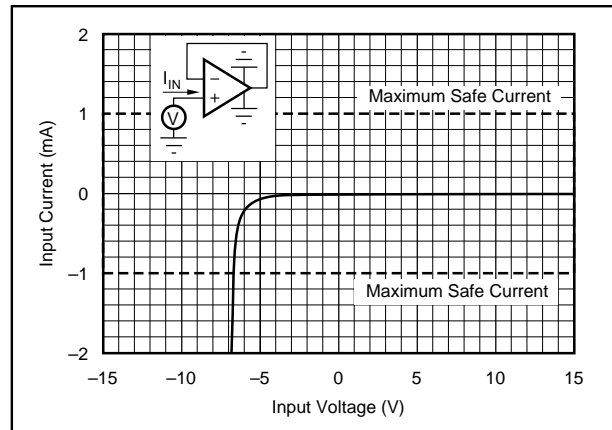

FIGURE 2. Input Current vs Input Voltage with  $\pm V_{CC}$  Pins Grounded.
NOTES: (1) Packages must be derated based on  $\theta_{JC} = 150^\circ\text{C}/\text{W}$  or  $\theta_{JA} = 300^\circ\text{C}/\text{W}$ . (2) For supply voltages less than  $\pm 18\text{VDC}$ , the absolute maximum input voltage is equal to  $+18\text{V} > V_{IN} > -V_{CC} - 6\text{V}$ . See Figure 2. (3) Short circuit may be to power supply common only. Rating applies to +25°C ambient. Observe dissipation limit and  $T_J$ .